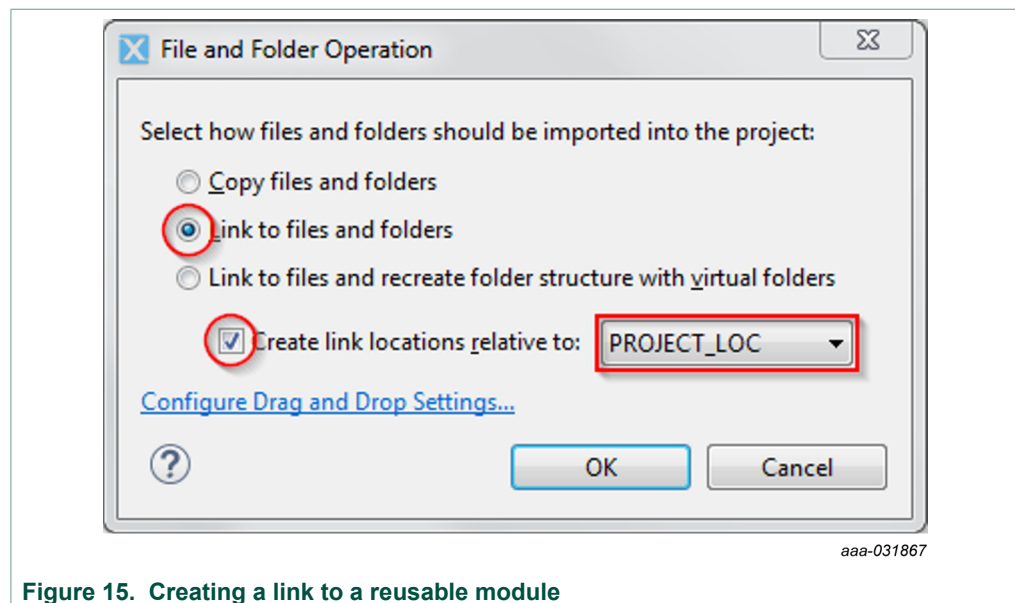

Figure 15. Creating a link to a reusable module
2. A window pops up. Ensure that Link to files and folders and Create link locations relative to: PROJECT_LOC are selected (see Figure 15).